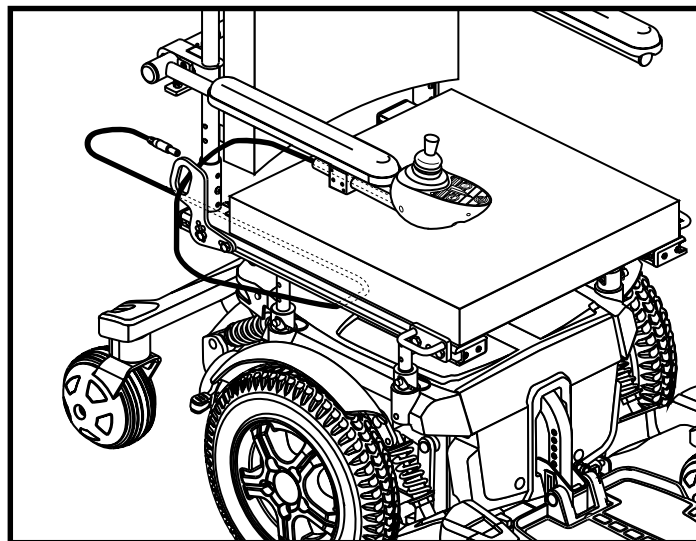

Figure 12. Remote Plus Controller Routed on a Synergy Seat
4. Install the controller and route the cable to the back of the power base. See figure 12 or 13.
7. Route the controller cable to the back of the power base and plug in the controller. See figure 12 or 13.